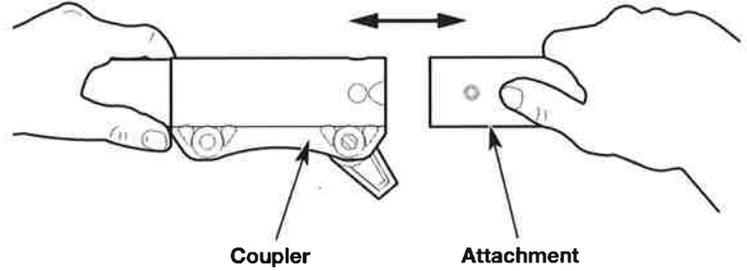
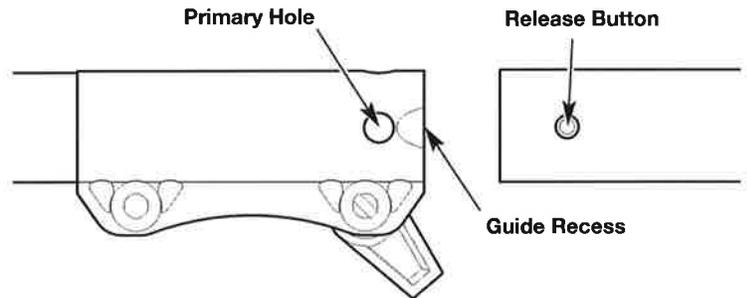

Fig. 5
Fig. 6
4. Align the release button with the guide recess (Fig. 6).
5. Push the attachment straight into the coupler (Fig. 5) until the release button snaps firmly into the primary hole (Fig. 6).
3. Press and hold the release button (Fig. 6).
4. Pull the attachment straight out of the coupler (Fig. 5).
NOTE: There is no need to turn the unit on. The On/Off switch is in the **On (I)** position at all times (Fig. 6).